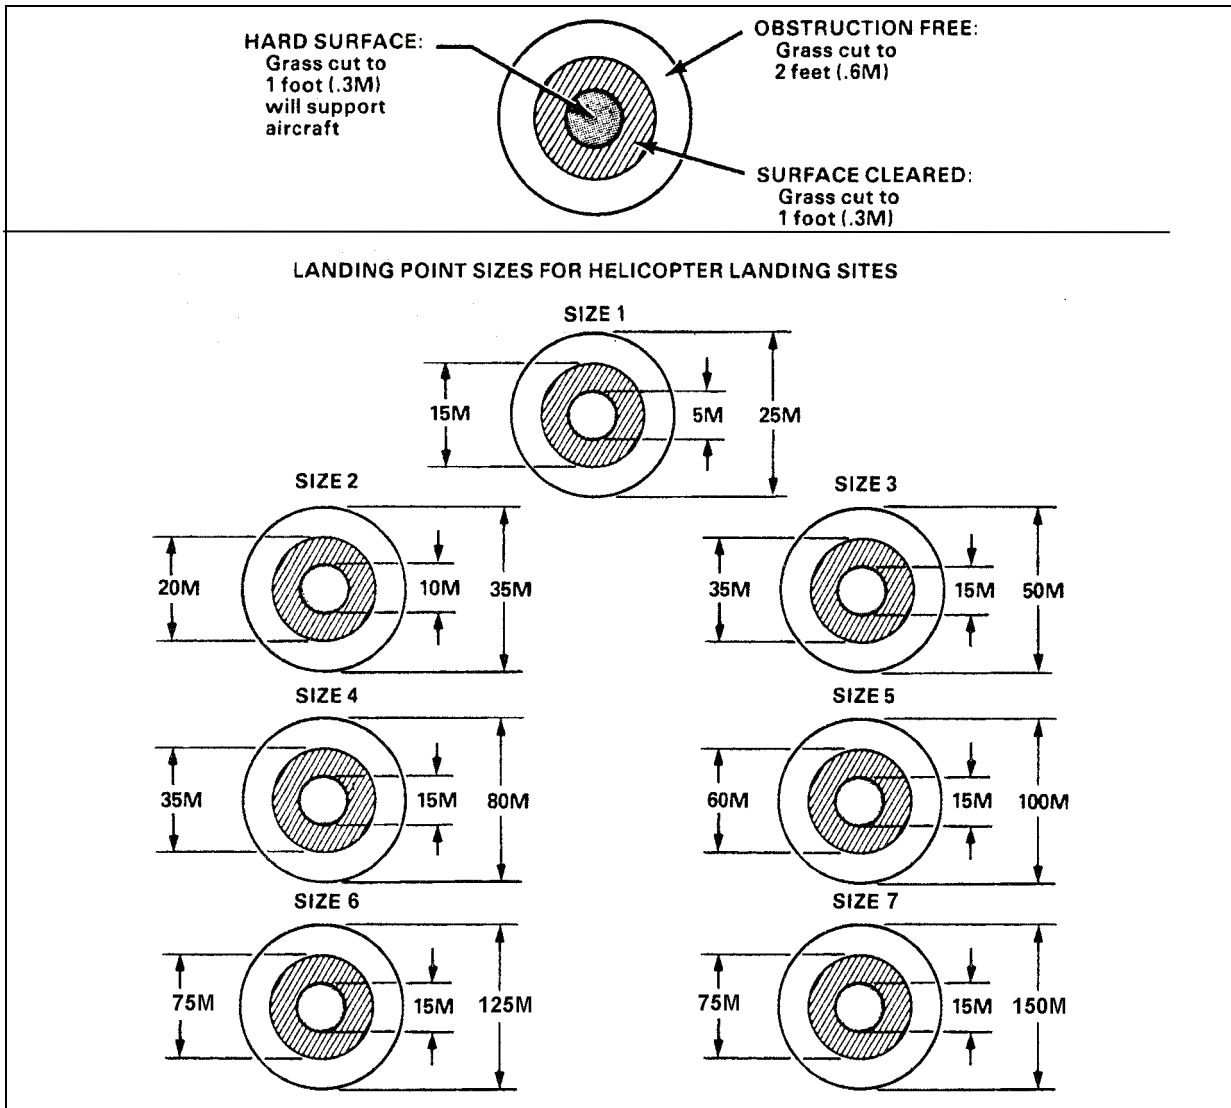

Figure 4-2. Required Landing Point Characteristics
4-4. Each landing point must be level and firm enough to keep a fully loaded aircraft's landing gear from sinking into the ground. The ground is firm enough for size 1 and 2 helicopters if it can support a 1 1/4-ton truck. If the ground can support a 5-ton truck, size 3 through 5 helicopters can land without risk of sinking. The entire landing point must be cleared of any loose material or debris to prevent it from being blown into the ground crew or rotor blades, or drawn into the helicopter engines. Figure 4-2 shows the three different areas and conditions for each size landing point.
- Night Operations.** During night operations, as the pilot gets closer to the landing point, he needs a wider area for a safe approach than just the 16-degree sector. Therefore, the minimum width of the approach and exit path, illustrated by the darker shaded area, must be equal to or wider than the width of the landing point that must be cleared to a maximum height of 2 feet (Figure 4-2). The length of the minimum width area, dimension X, will vary depending on the size of the landing point, (Table 4-2). Follow along as we use a UH-60 Blackhawk as an example to help clarify the night approach and exit path criteria. Table 4-1 identifies the UH-60 Blackhawk as a size 3 helicopter. Next we must determine the landing point area that must be free from obstructions and grass cut to maximum height of 2 feet. Figure 4-2 indicates 50 meters as that area for a size 3 landing point. Therefore, the minimum width of the night approach and exit path is 50 meters. The minimum width distance intersects the 16-degree V-shaped arc (night approach and exit path) 180 meters from the center of the landing point. In other words, the night maximum obstruction angle applies to the complete approach and exit path; both the rectangular-shaped wedge (dark shaded area of the diagram) as well as the 16-degree V-shaped arc (light shaded area and dotted line).